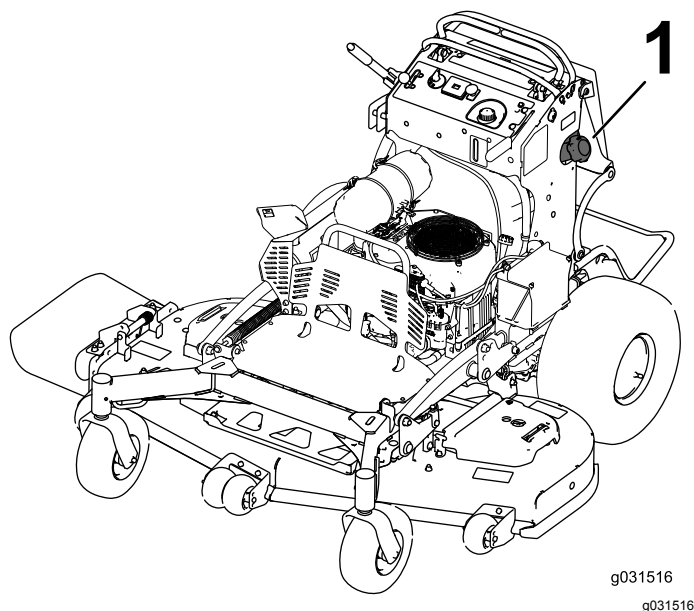

Figure 46
3. Clean around the fuel cap to prevent debris from getting into the fuel tank (Figure 46).